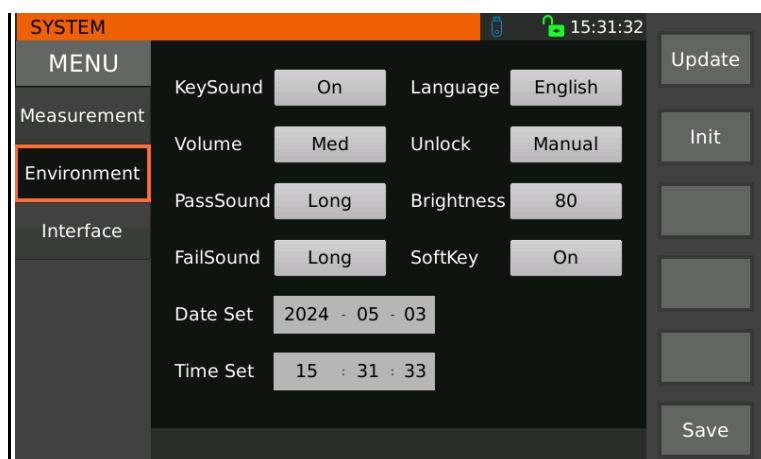

Figure 3-8 System Environment Parameter Settings
- 2、 Select by **〔▲〕** , **〔▼〕** arrow keys or knob or directly touch the screen to enter the environment-related system setting interface shown in Figure 3-8.
The environment-related parameter settings in the system setup are shown in Figure 3-8.